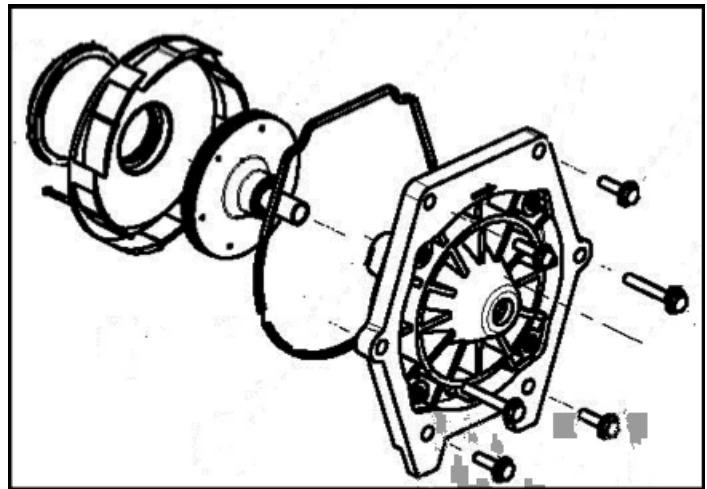

Figure 4
1. When installing the replacement shaft seal, use a light density soap and water to seal the seal. Press the seal into the seal plate with your thumbs and wipe off the ceramic and carbon faces with a clean cloth, and ensure the seal is fully seated. See Figure 4.
1. The Shaft Seal consists primarily of two parts, a rotating member and a ceramic seal. See Figure 4.